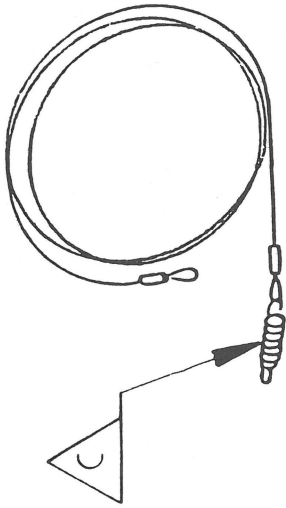

FIGURE 19
□ RIBBON WIRE AND SPRING (Figure 19)